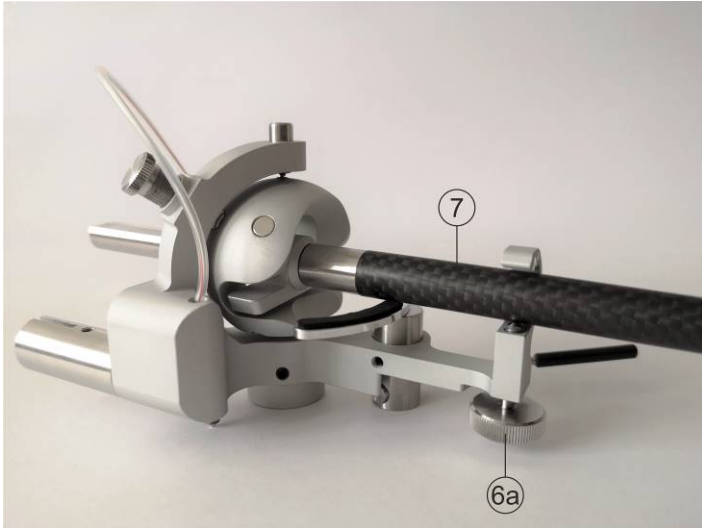

Figure 7
- j) Set armtube [7] in rest position and fasten it with the screw [6a] (Figure 7).